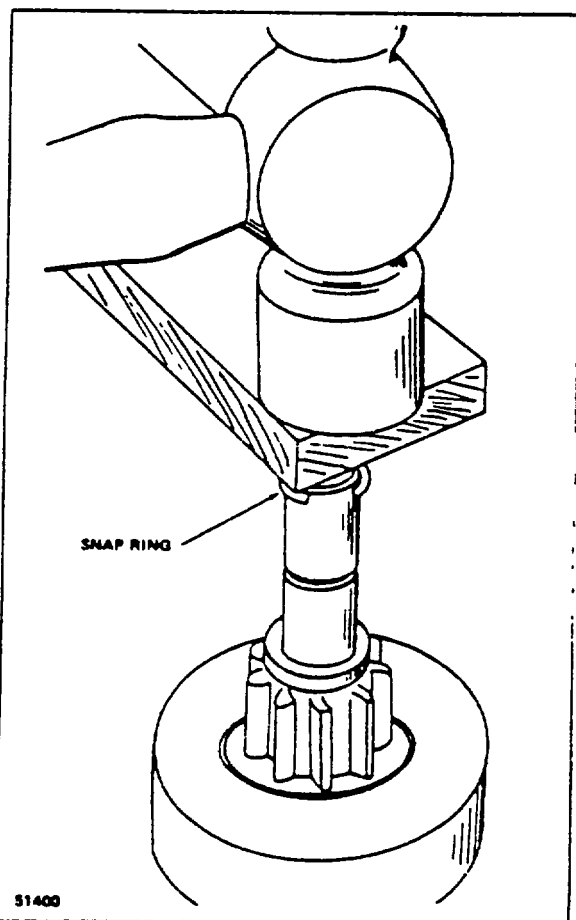

Figure 3-5. Forcing Snap Ring Over Shaft
- b. Place the snap ring on the end of the shaft. With a piece of wood on top of it, force the ring over the shaft with a light hammer blow (See Figure 3-5), then slide the ring down into the groove.